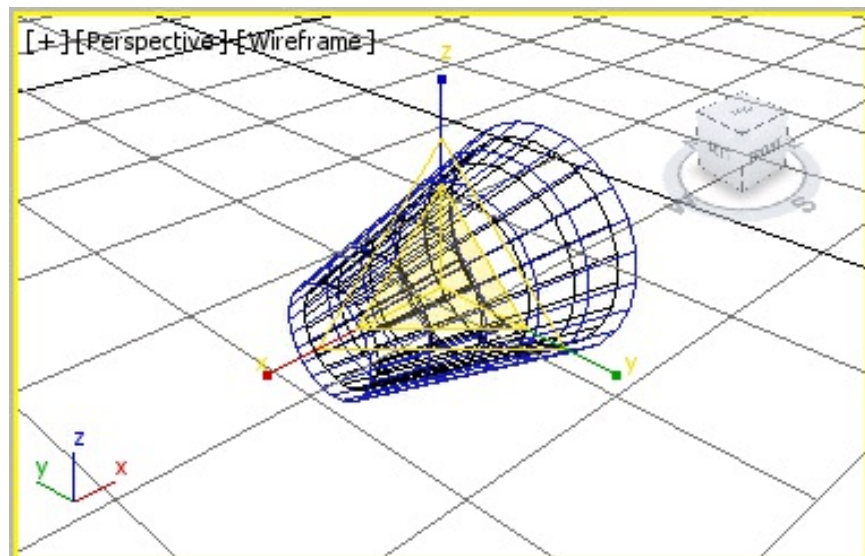

Figure 11-66 The cap002 geometry
8. Activate the Perspective viewport and make sure the cap is selected. Press and hold the SHIFT key and the left mouse button and move the cursor down until the value in the X, Y, and Z coordinates in the coordinate display becomes **90** and then release the left mouse button and the SHIFT key; the **Clone Options** dialog box is displayed. Make sure that the **Copy** radio button is selected and **1** is set in the **Number of Copies** spinner and then choose the **OK** button; *cap002* is displayed, as shown in Figure 11-66. You need to switch to wireframe mode in the Perspective viewport to view *cap002*, refer to Figure 11-66.